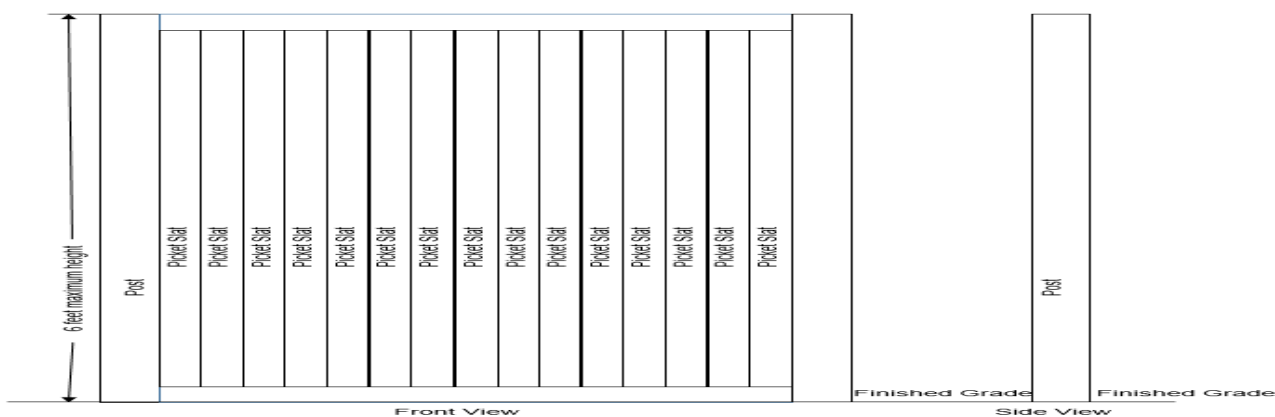

Figure 2. Example of Fence behind Structure's Front Plane. No See Through required.
- b. Fence / Gate height behind the front plane of the structure (including garage). Refer to Figure 2. Fence / gate installed behind the front plane of the structure does not require the “see-through” design. Fence/Gate shall be no more than six (6) feet from the top of the finished grade to the top of the fence/gate.